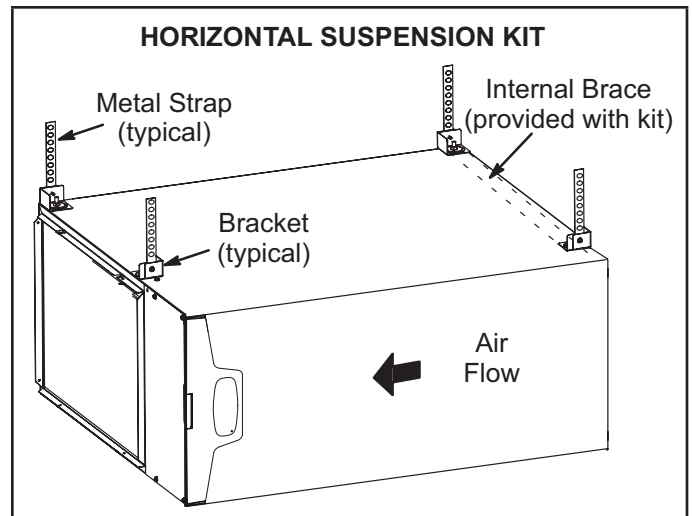

**Figure 17**
The EL296UHV furnace can be installed in horizontal applications with either right- or left-hand air discharge. Refer to Figure 17 for clearances in horizontal applications.
- 1 - Select location for unit keeping in mind service and other necessary clearances. See Figure 17.